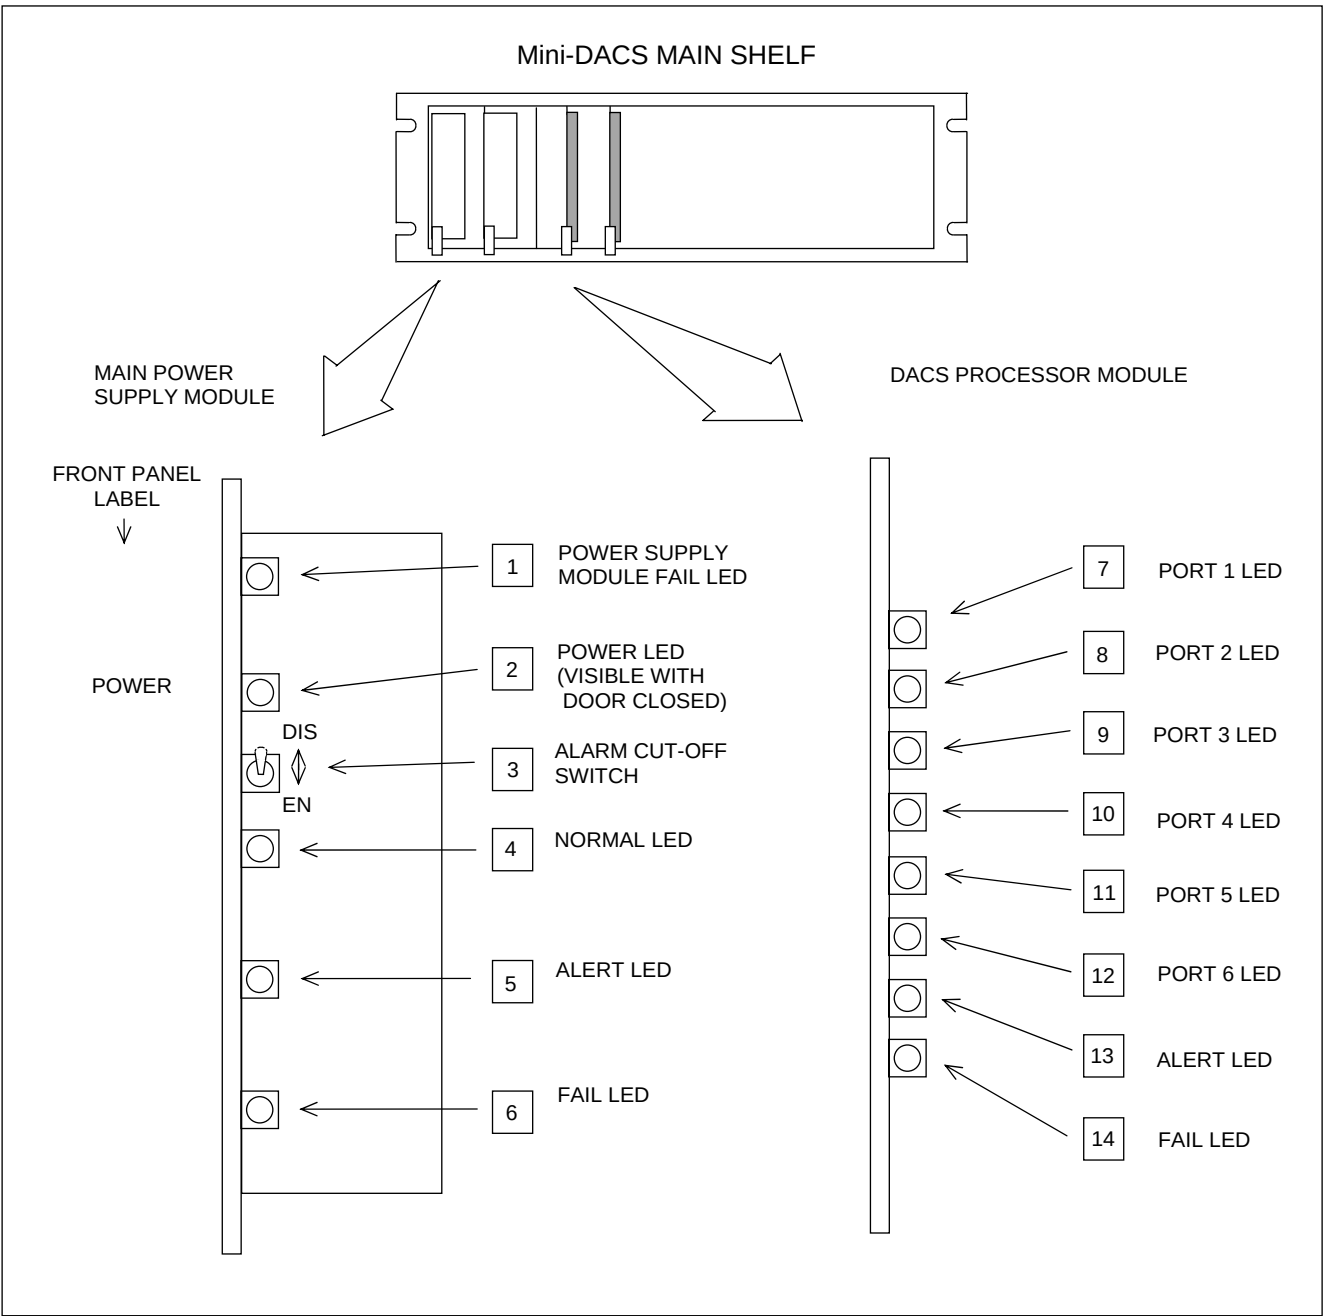

Figure 4-10. DACS Front-panel switches and indicators
1. The main power supply (when used), optional redundant power supply (when used), DACS processor module and DACS module must be plugged into the locations shown in Figure 4-10.
2. At the rear of the chassis the Power Supply Alarm I/O module (when used) must be plugged into the location shown in Figure 4-10.
Figure 4-10 is a front view of the IMUX 2000 Mini-DACS with its front door open. The main power supply module and the DACS processor module are expanded to show the locations of all front panel switches and indicators. Functional descriptions of these switches and indicators appear in Tables 4-1 and 4-2. The numbers in the call-out columns of these tables refer to the call-outs shown in Figure 4-10.